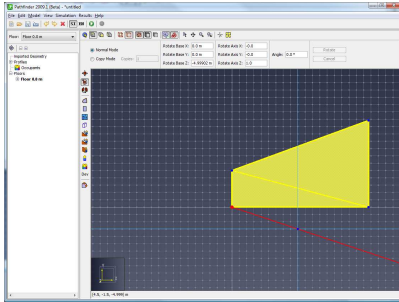

Figure 138. Base point of rotation
- The first specifies the base of rotation (Figure 138).